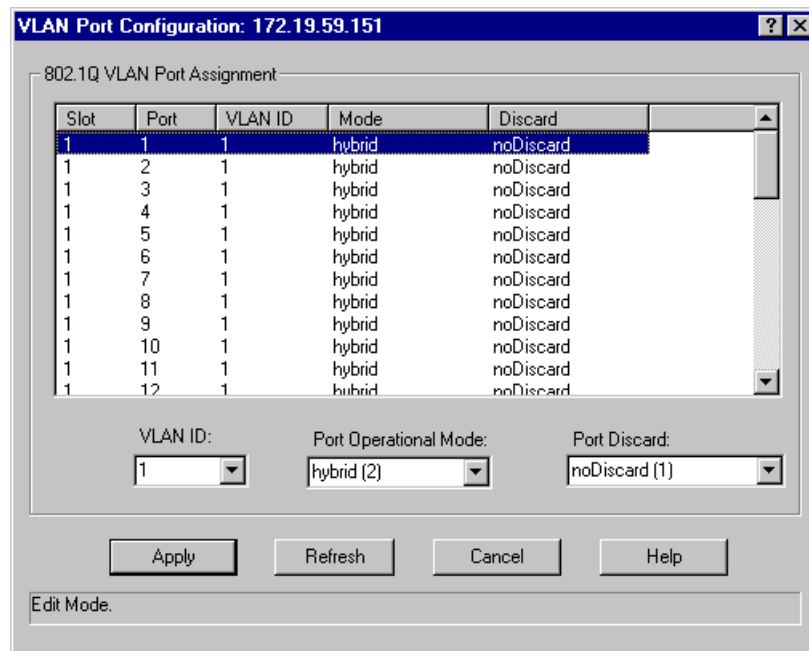
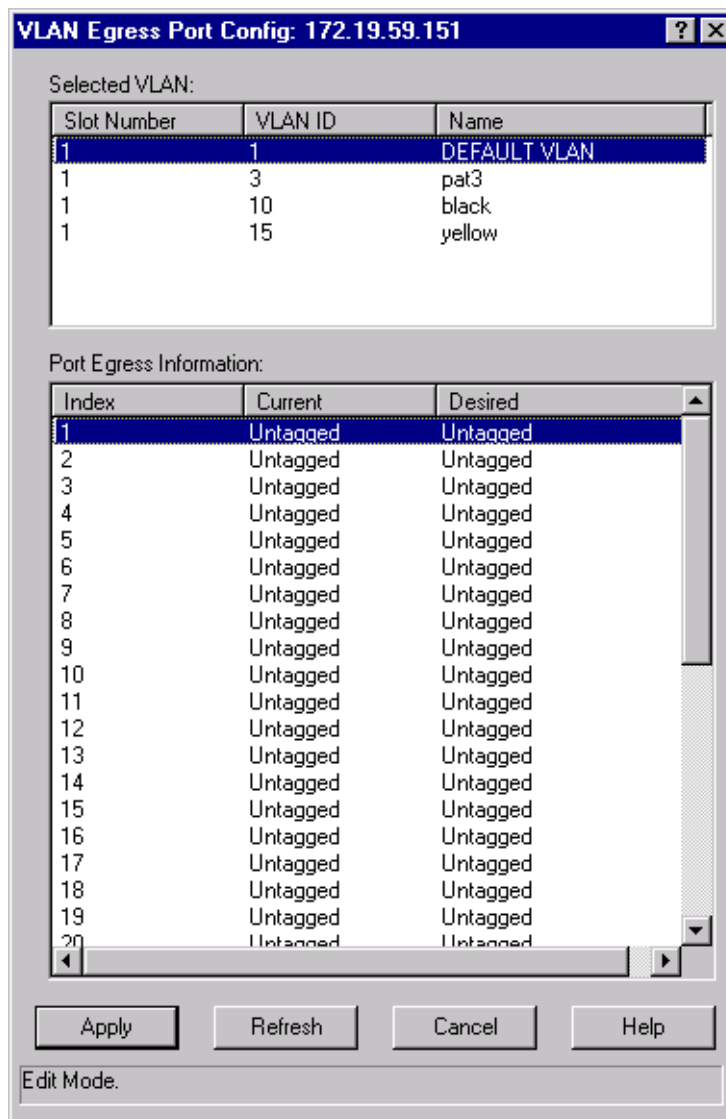

Figure 2-26. The VLAN Port Config Window
Figure 2-27. The VLAN Egress Port Config Window
After your VLANs are defined, you may configure the ingress and egress lists for each port using the VLAN Port Config window (Figure 2-26) and the VLAN Egress Port Config window (Figure 2-27), respectively.
2. Drag down to **802.1Q VLAN**, then right to select **802.1Q VLAN Port Config**. The VLAN Port Config window, Figure 2-26, will appear.
1. In the Chassis View window, select **Device>VLAN>VLAN Egress Port Config...** from the menu. The VLAN Egress Port Config window, **Figure 2-27**, appears.